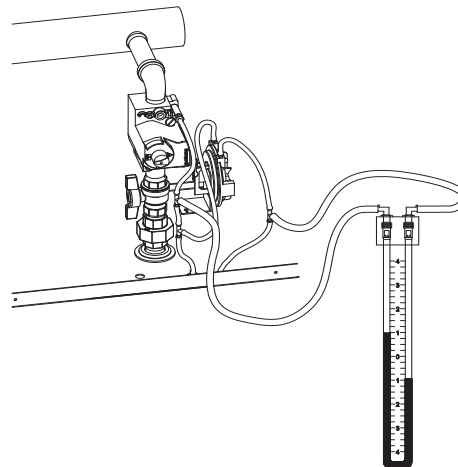

Figure 45 - Combustion Air Adjustment with a Manometer to set Differential Pressures
3. Adjust the air shutter until the differential pressure is nominally 1.2 - 1.35 inches water column for models 495,000 - 745,000 Btu/hr and 1.1 - 1.3 inches water column for models 985,000 - 1,255,000 Btu/hr. **Note: The air chamber pressure is 1.2 inches water column for liquefied petroleum (L.P.) and 1.4 inches water column for natural.** See Figure 45 on installations up to 2000 feet altitude. Contact the factory for high altitude pressure settings.
4. Adjust the air shutter until the differential pressure is nominally 1.1 - 1.3 inches water column. **Note: The air chamber pressure is 1.2 inches water column for liquefied petroleum (L.P.) and 1.4 inches water column for natural.** See Figure 45 for installations up to 2000 feet altitude. Contact the factory for high altitude settings.